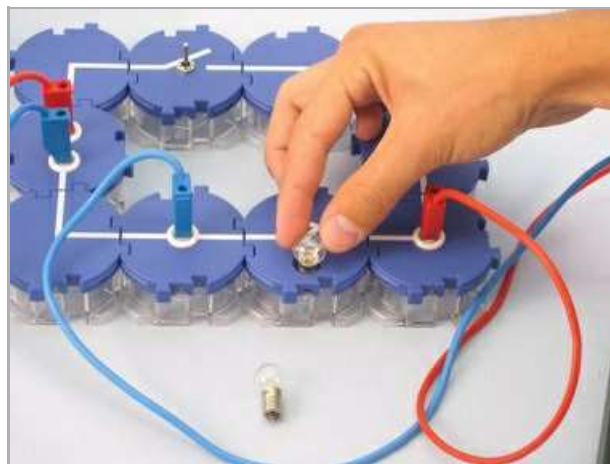

Fig. 5
- First screw the lamp whose rated voltage is 4 V in position (Fig. 5). Open the switch.